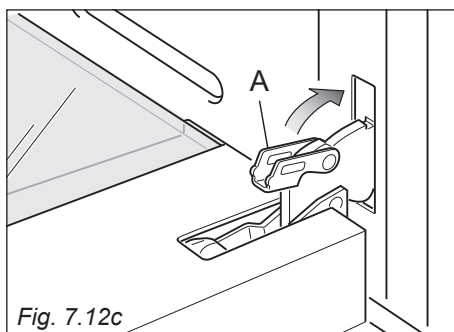

Fig. 7.12c
4. Fully close the levers “A” on the left and right hinges, as shown in the figure 7.12c.